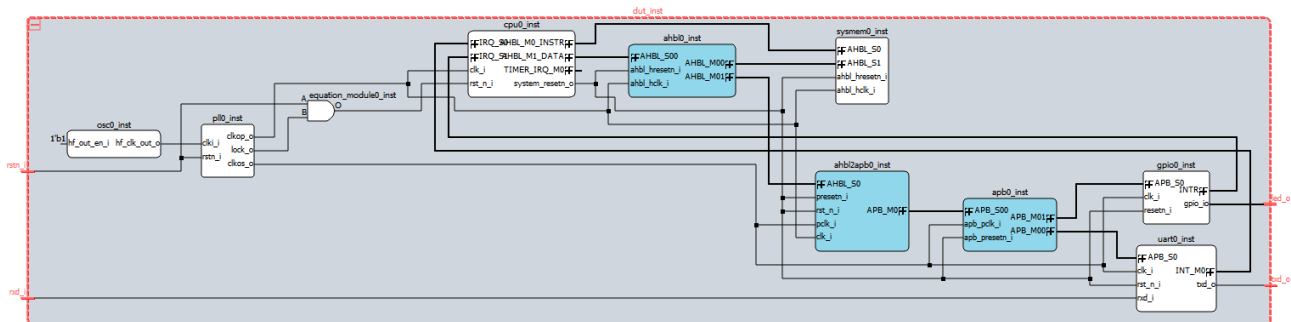

Figure 2.87. Whole SoC Design
- Click the plus sign  of this `dut_inst` DUT block. You can see the whole SoC Design (Figure 2.87). Click the negative sign  to close the expanded bus.